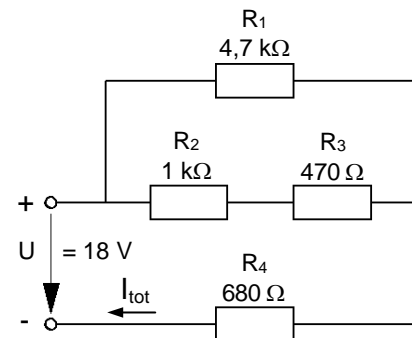

Fig. 3.3.4.3: Resistor network 2
- Assemble the circuit of Fig. 3.3.4.3 on the Electronic Circuits Board. Ensure that all measurement points for voltage and current, are easily accessible (assembly notes will be found in section 3.3.6).